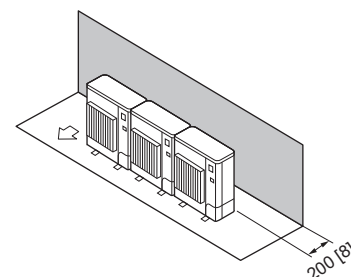

Fig. 2-12
- Obstacles at rear only (Fig. 2-12)